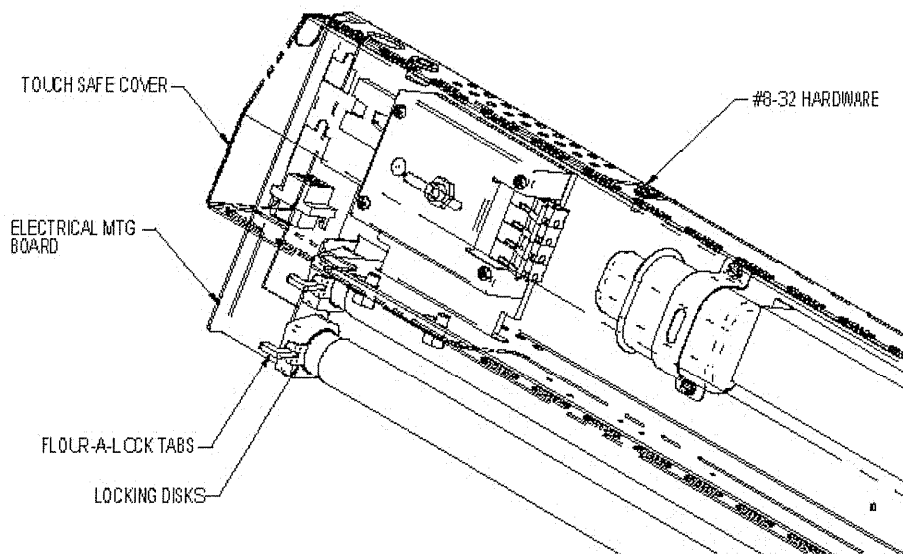

Figure 3
4. Next remove locking tabs (2) from the lamp holders located on the left side of the fluorescent lamps. (See Figure 3) Next using both hands, grasp the lamp carefully near each end and rotate it away from the cabinet approx $\frac{1}{4}$ turn until the lamp is no longer seated in the holders. Remove the second lamp as instructed and dispose of them properly.
5. Install new lamps using the reverse directions listed, making sure that the locking disks are installed on one end of the lamp and that the *FLUOR-A-LOCK* tabs are inserted properly. (See Figure 3.)
- Figure 3:** Canopy Exhaust Connection (CEC)